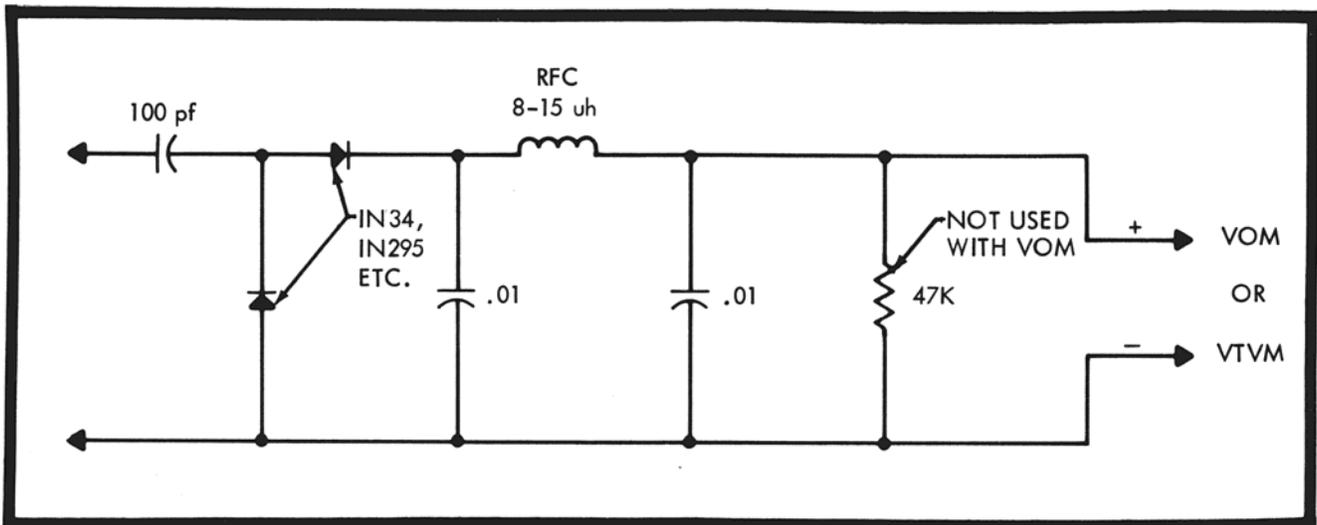
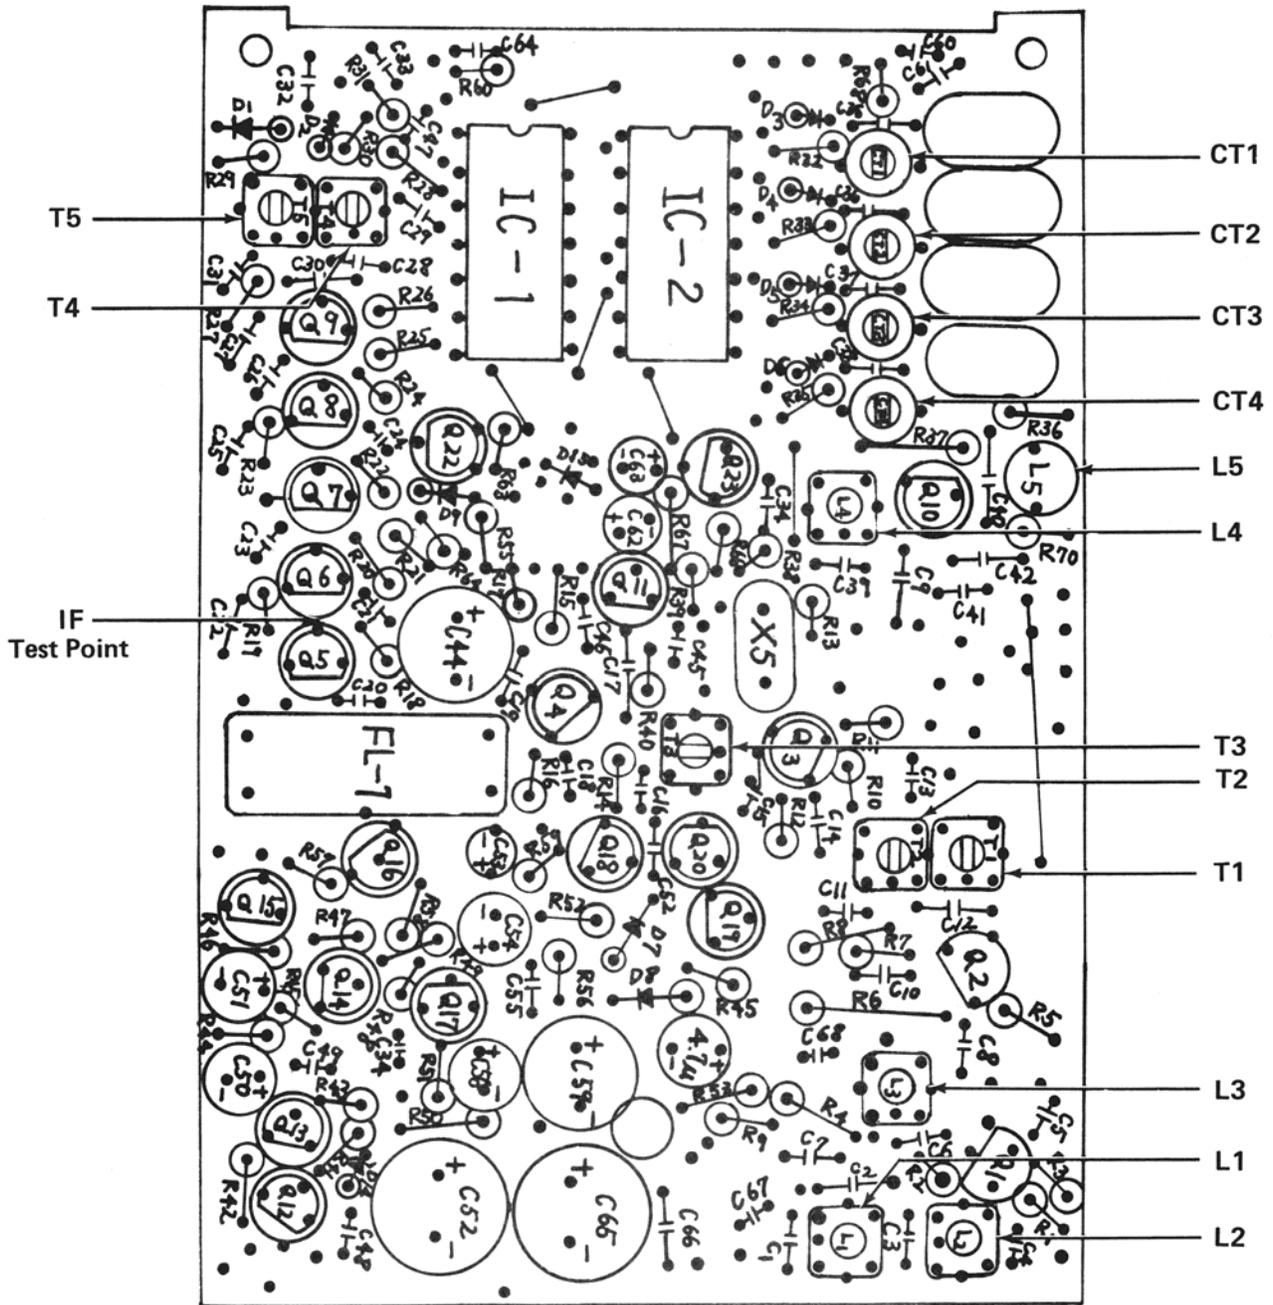

Figure 4-1. RF Probe
Figure 5-1. Adjustment Locations
| RF Probe for VOM ..... | If none available for instrument, one may be fabricated as shown in Fig. 4-1 |
3. Connect a DC voltmeter through an RF probe (Figure 4-1) to the collector of Q5. (This is designated as IF Test Point in Figure 5-1.)
3. Tune T1, T2, and T3 for a maximum indication on the meter. Reduce the signal generator level, as required, to maintain approximately 0.1 volts (see Figure 5-1).